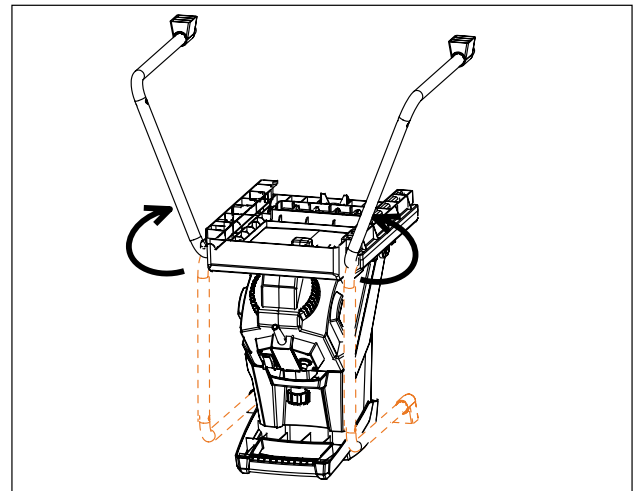

FIG. 1
- 1 Turn the machine upside down on a flat surface and rotate the two brackets from the outside of the machine to the upright position (**FIG. 1**).